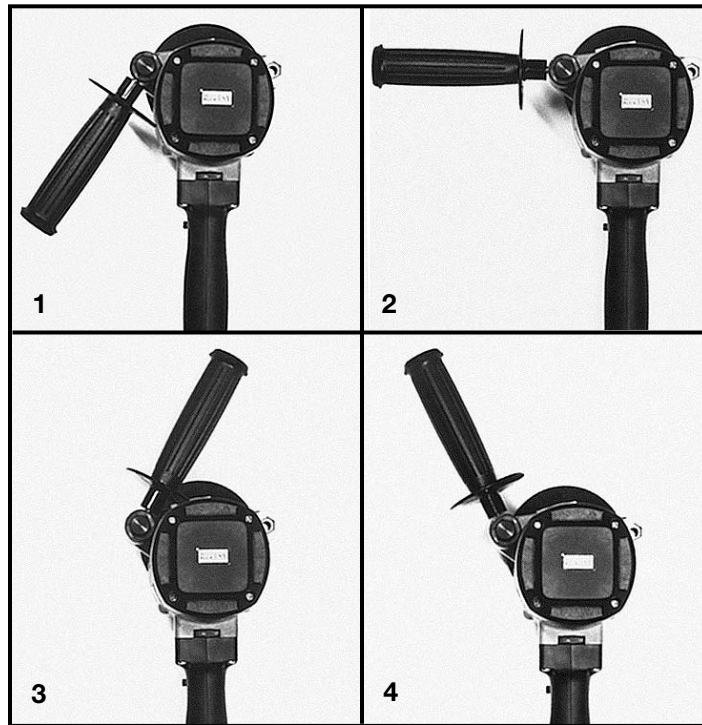

Fig. 3
6. Thread auxiliary handle into collar. The handle and collar may be tightened in any one of four positions (Fig. 3). Move handle and collar to desired position and tighten securely.